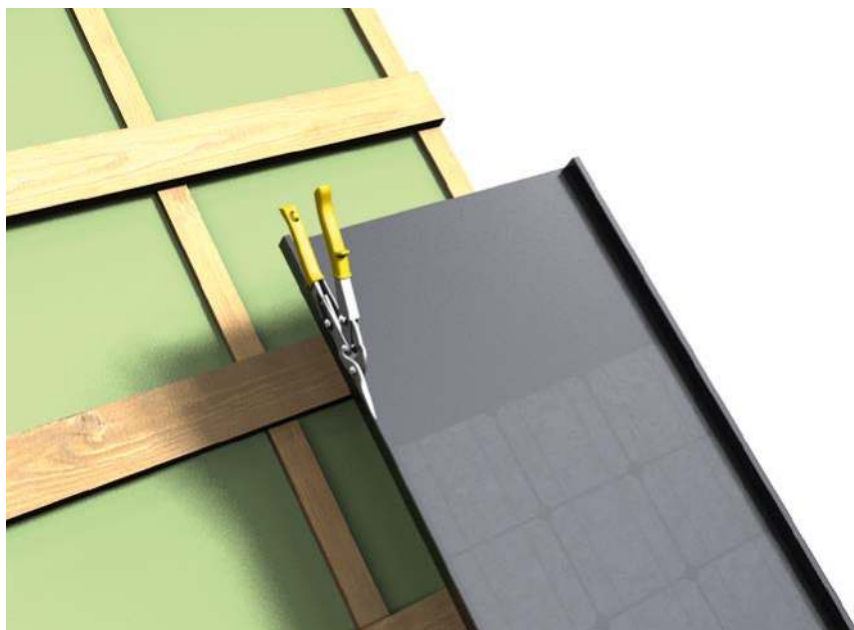

Fig. 5
**Cutting higher lock** is shown accordingly in Figure 5 and 5 a. Starting from the line where the next Roofit.solar module comes, the cut starts continues vertically to module alignment, until the upper part of the lock reached to an end (Fig. 5 a)
Fig. 5 a